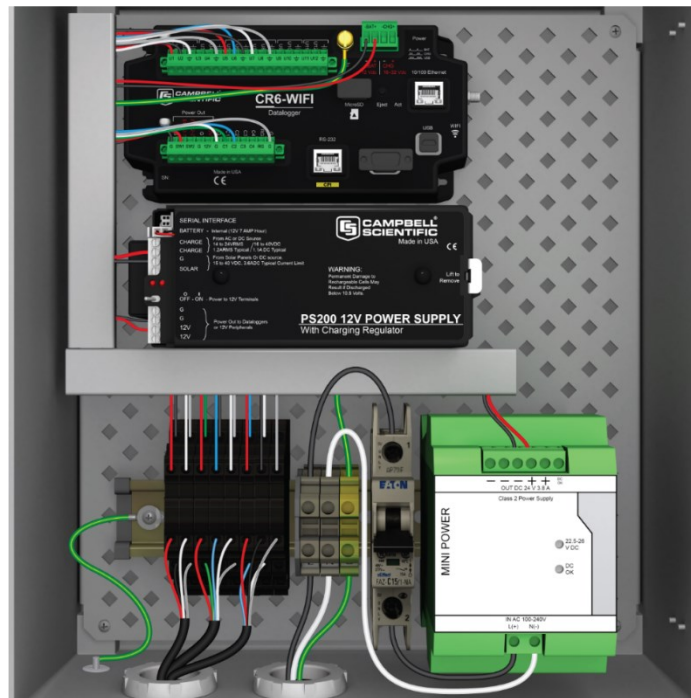

FIGURE B-11. Attaching external wiring
9. Attach any wires coming from outside the enclosure to the DIN-rail components (FIGURE B-11 (p. 39)). Do not attach any voltage sources, such as AC power or a solar panel, until all other terminal connections have been made and verified.